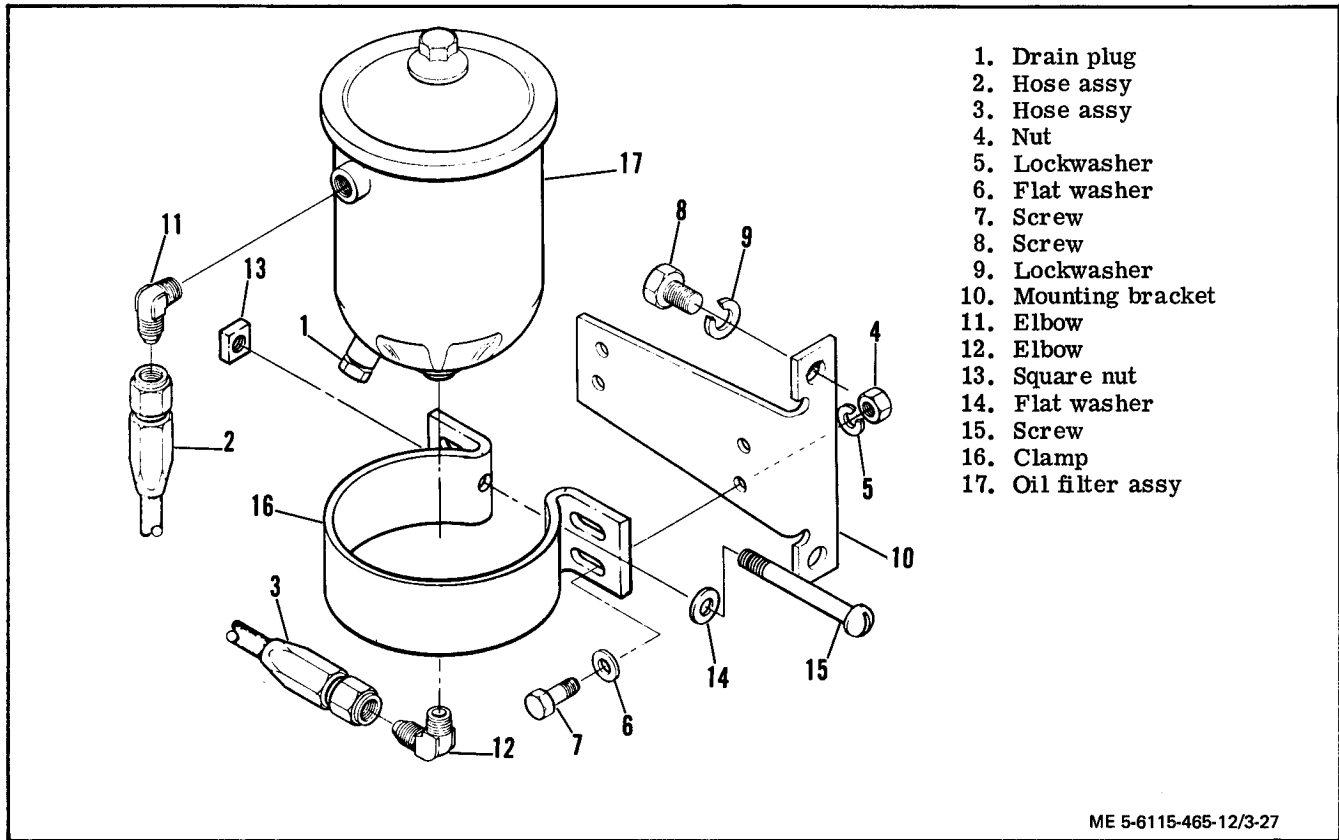

Figure 3-27. Lubrication Oil Filter Assembly, Removal and Installation
(1) Remove drain plug (1, figure 3-27) and allow the oil to drain into a suitable container.
(2) Disconnect hose assemblies (2 and 3) from the filter assembly.
(3) Remove nuts (4), lockwashers (5), flat washers (6) and screws (7).
(4) Do not remove screws (8), lockwashers (9) and mounting bracket (10) unless inspection reveals damage.